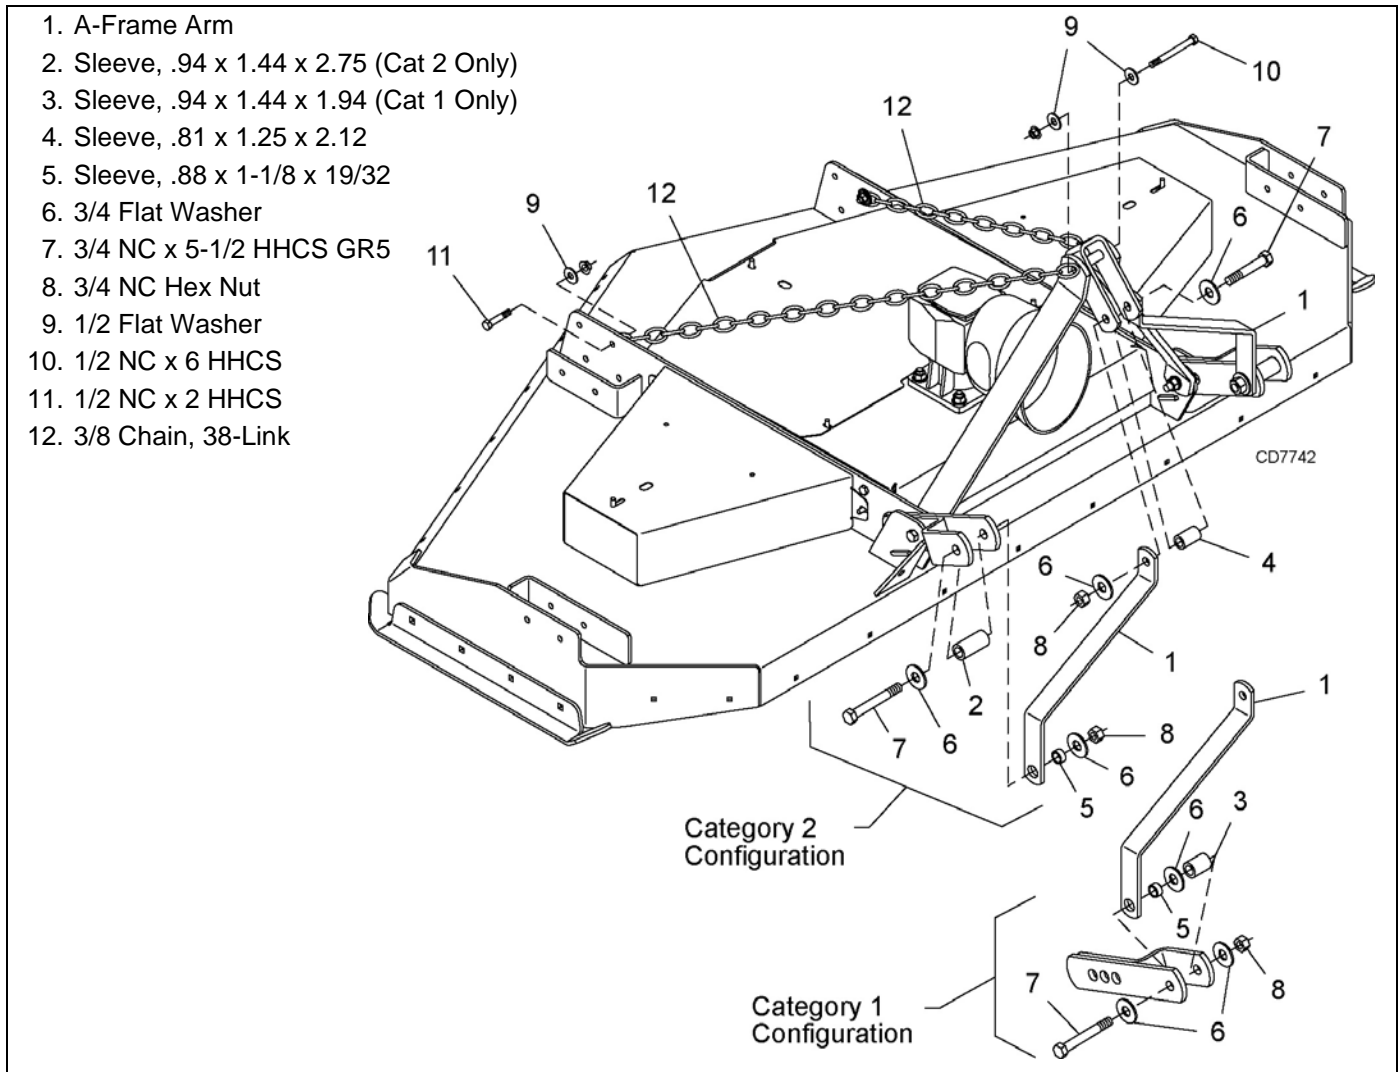

Figure 34. Quick Hitch Kit Installation (Optional)
1. Lower hitch arms must be located in center attachment hole. See Figure 34 for adjustment.
4. Attach A-Frame arms (1) and sleeve (2) to lower hitch arms using cap screws (7), sleeve (5), washers (6) and hex nut (8).
5. Attach upper end of A-Frame arms (1) and sleeve (4) to U-bracket, using cap screw (7), washers (6) and hex nut (8).
6. Remove rear offset links. They will be replaced with chains (12).
7. Attach chains (12) to top of A-frame on both sides as shown, using cap screw (10), washers (9), and flange lock nut.
8. Attach opposite ends of chains (12) to rear mower frame using cap screws (11), washers (9), and flange lock nut. Vary length slightly as desired. Twist chain to make finite adjustments in length until unit lifts level.